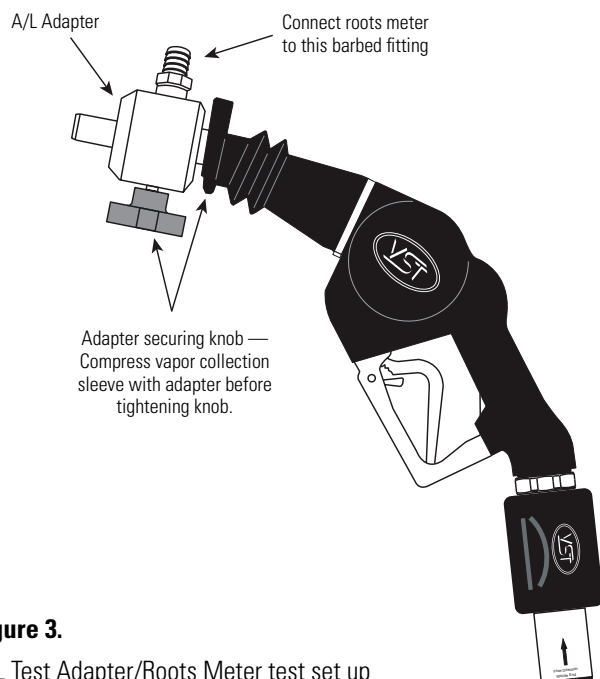

Figure 3.
3. Slide the A/L Test Adapter over the nozzle spout so that the side of the hose-barb fitting is closest to the nozzle body so that the adapter face mates firmly and seals against the face seal. (see Figure 3.)